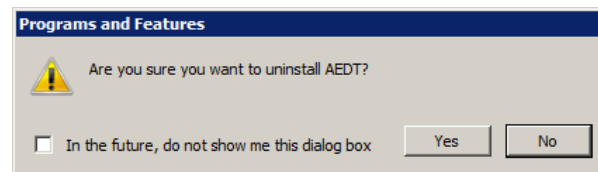

Figure 2-32 Confirm Uninstall
3. A dialog box will open to confirm the uninstallation of AEDT. Click *Yes* to confirm (Figure 2-32).